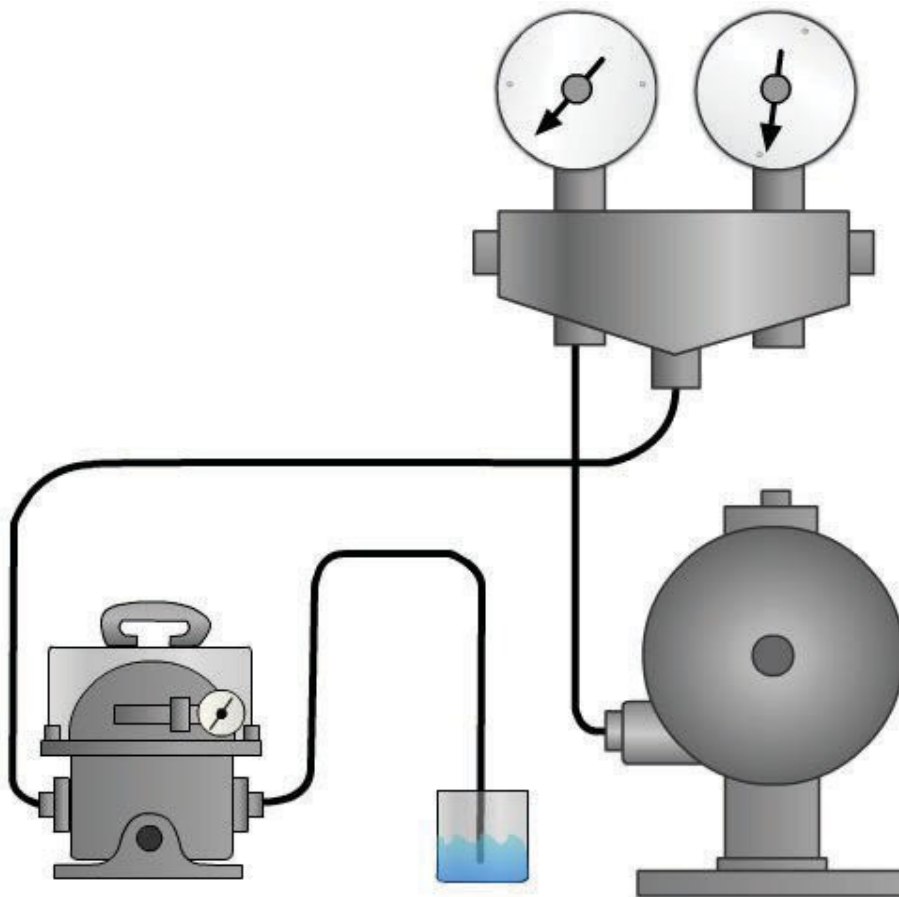

Figure 12-53 – Connections for drawing a vacuum.
4. Attach one end of the 1/4-inch copper tube to the vacuum pump discharge outlet (*Figure 12-53*). Allow the vacuum pump to draw a vacuum of at least 25 inches. Submerge the other end of the copper tubing under 2 or 3 inches of clean compressor oil contained in a bottle.